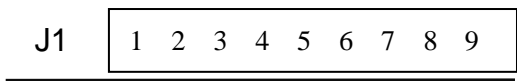

Figure2
The power supply requirement is DC 11.4V-25.2V and  $\geq 12W$ . For the power supply terminal position, please refer to Figure 2 and Table 2 for T100-S300/S301/S302/S303 & JY15-12, Figure 3 and Table 4 for T100-S500&JY15-12.
Figure 2 shows BCD dial switch and wiring terminal on control board. Refer to Table 2 for wiring terminal definition.
- 2) Connect the power supply and necessary control signal wire according to Figure 2 and Table 2.